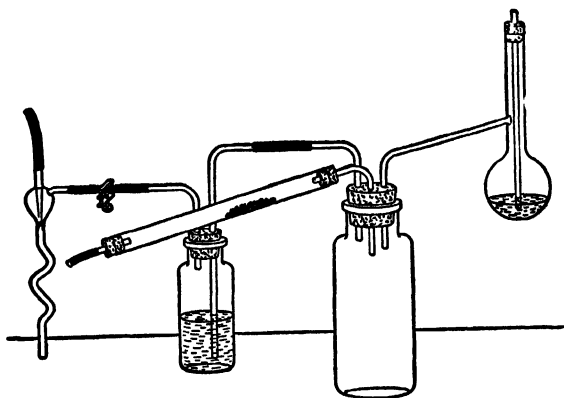

FIG. 26.
a. How should you prepare a solution of (1) sodium sulphite, (2) sodium bisulphite, from sulphurous acid? Write the equation in each case.
a. (Two students working together.) Obtain a distilling-flask (25 c.c.), rubber connections for a safety bottle, a screw-clamp, and a Chapman pump from the storeroom. Fit up with your one-liter bottle the apparatus as in Fig. 26. Charge the hard glass tube with about 10 g. of granular pyrite,* and place a small, loose plug of asbestos just beyond the pyrite to retain any unburnt sulphur. Put into the distilling-flask about 10 c.c. of pure concentrated nitric acid. The safety bottle, half filled with water to show the rate at which air is being drawn through the apparatus, is attached to the water pump. The total air admitted is regulated by the screw-clamp between the pump and the safety bottle, while the proportions which pass over the pyrite and which carry over the nitric acid vapor, respectively, are regulated by pinching one of the tubes with the finger and thumb.